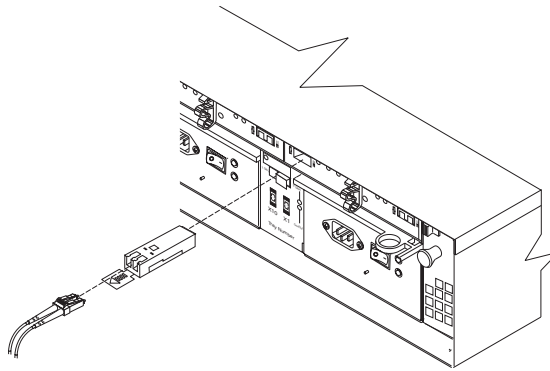

Figure 35. Installing an SFP module and connecting a LC-LC cable to the FAST EXP700
3. Install an SFP module in the SFP port on the back of the FASTt EXP700; then, connect the other end of the LC-LC cable into the SFP module, as shown Figure 35 on page 34.